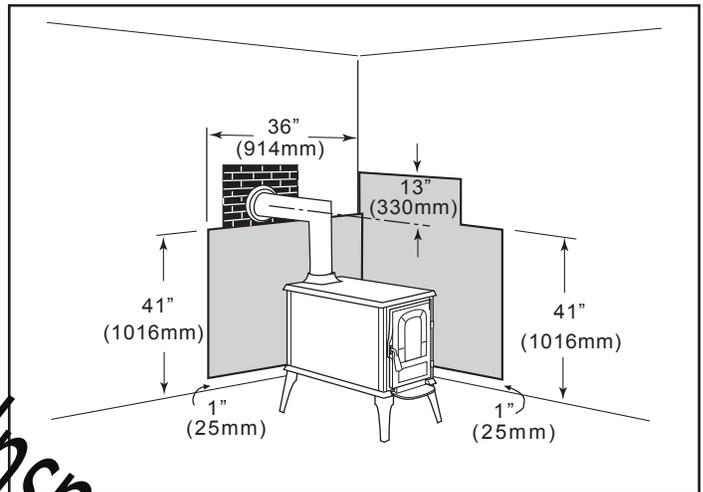

Figure 4.6 - Parallel installation with rear wall pass-through, two wall shields.
**Parallel installation with rear wall pass-through, two wall shields.** Figure 4.6: Reduced clearances for both rear and side walls. Wall shields may meet at corner if desired. Shielding for connector is centered behind connector. Wall pass-through must comply with codes.